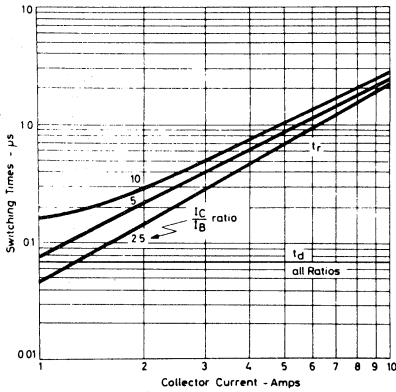

FIGURE 7
4. For typical variation of switching times with collector current, see figures 7 and 8